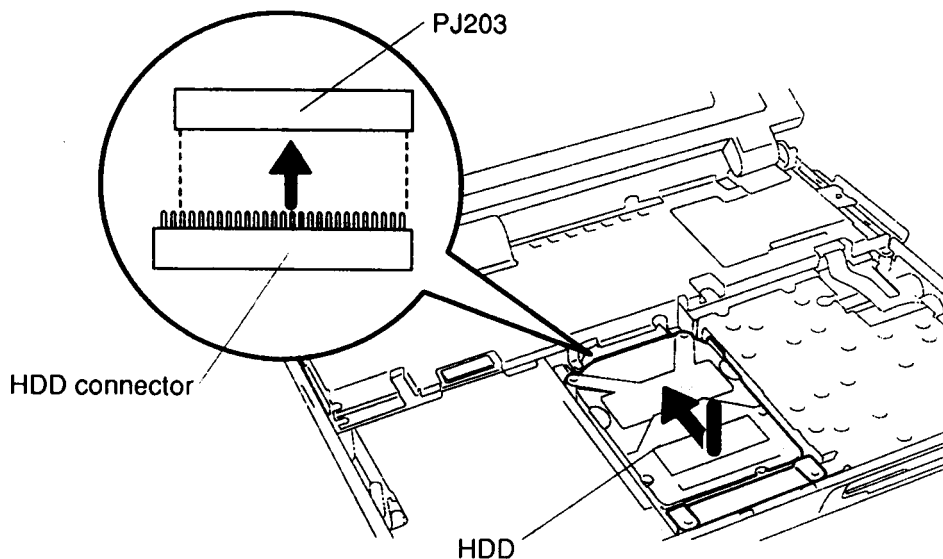

Figure 4-13 Connecting the HDD to the System Board
3. Place the **HDD** into the HDD slot, and slide the HDD to the back. Make sure the **HDD connector** connects to the lower system board connector (**PJ203**) correctly as shown in Figure 4-13.